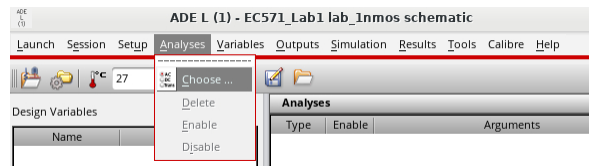
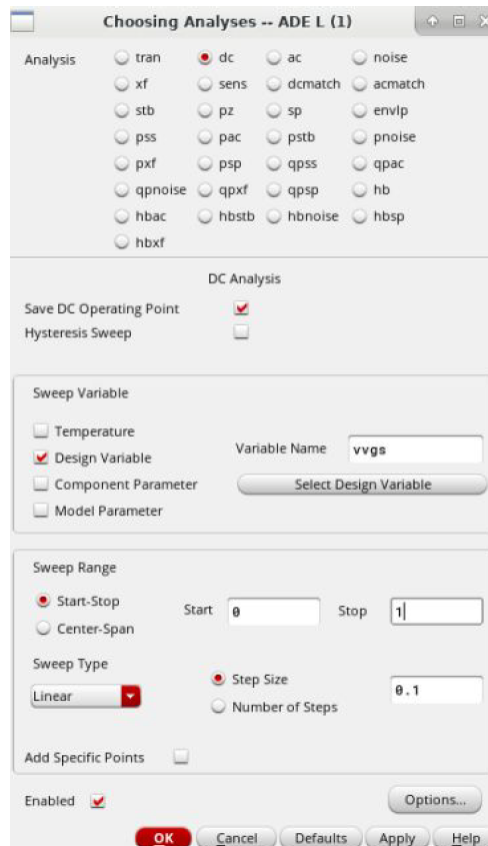

Figure 20: Opening analysis selection view
Figure 21: Setting up DC sweep simulation
- In the “ADE L” Window, go to Analyses → Choose (see Figure 20). This opens up a window called “Choosing Analyses”. Here choose dc analysis. DC analysis simulates a circuit’s steady-state (i.e. time-independent) behavior. Select “Save DC Operating Point”. Select Design Variable in the “Sweep Variable” panel. Click on the Select Design Variable and choose “vvgs”. In the “Sweep Range” panel, type 0 for start and 1 (this corresponds to V_{DD} voltage) for stop. For “Sweep Type”, select “Linear” then select “Step Size” and enter 0.1 in the field of “Step Size”. Select “Enabled” (see Figure 21). Click OK.